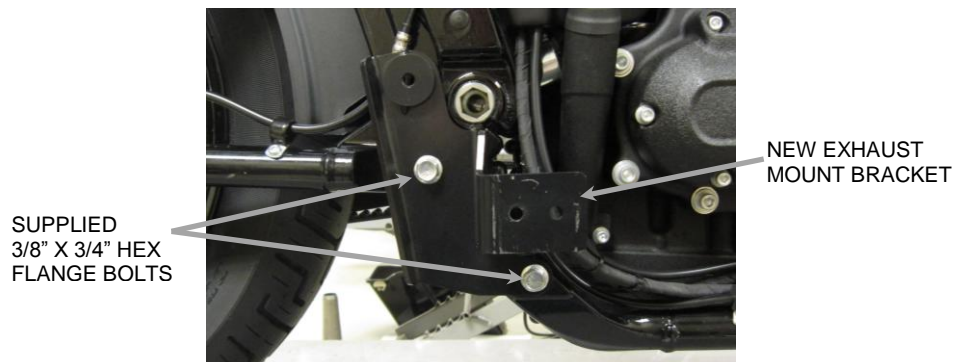

FIGURE 1
5. Install the new exhaust mount bracket using the supplied 3/8" x 3/4" hex flange bolts. Tighten the bolts to factory specifications. See **FIGURE 1**.